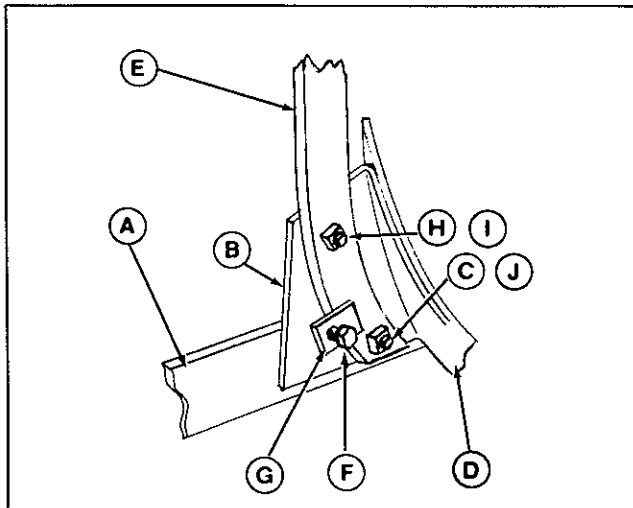

Figure 1. Plow
1. Attach the standard (E, figure 1) to the frog (B) with a 1/2 x 1-1/2" carriage bolt (H) and 1/2" nut (I).
2. Tighten the 1/2 x 2" plow bolt (J) and 1/2" square nut (C) at the bottom end of the standard. Tighten the square nut on the land adjusting bolt (F) (1/2 x 1-1/2") against the tab (G) welded to the standard, so that the threaded end of the bolt is forced against the frog (B).